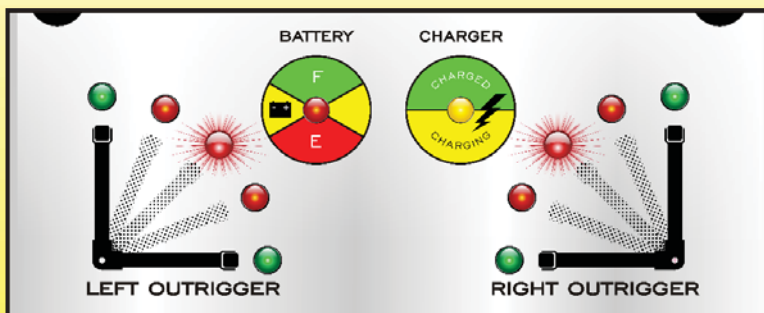

Figure 19 Battery Lockout Mode LED Indicators
the same time as shown in figure 19. Before using the UniLift for the first time, plug an extension cord into the charger's power cord and allow the batteries to completely charge. The "Charging" LED will glow green when the batteries are fully charged. The UniLift is now ready for use. Before using the UniLift, make sure you are familiar with the SAFETY INSTRUCTIONS, the OPERATING INSTRUCTIONS and are TRAINED. Only trained and authorized personnel shall be permitted to operate a UniLift.
UniLift in Service Mode/ LED indication – The UniLift operates using a series of switching and coordinating movements. The UniLift control system is programmed to enter Service Mode in the event the UniLift's program sequence has been compromised. In the event the UniLift enters Service Mode all six (6) red LEDs inside the arc of the right and left banks will be illuminated continuously as shown in Figure 19. The UniLift will not operate in Service Mode. Remove the UniLift from service and have a qualified technician troubleshoot and perform service. Contact Bishamon Industries for assistance in troubleshooting and service.